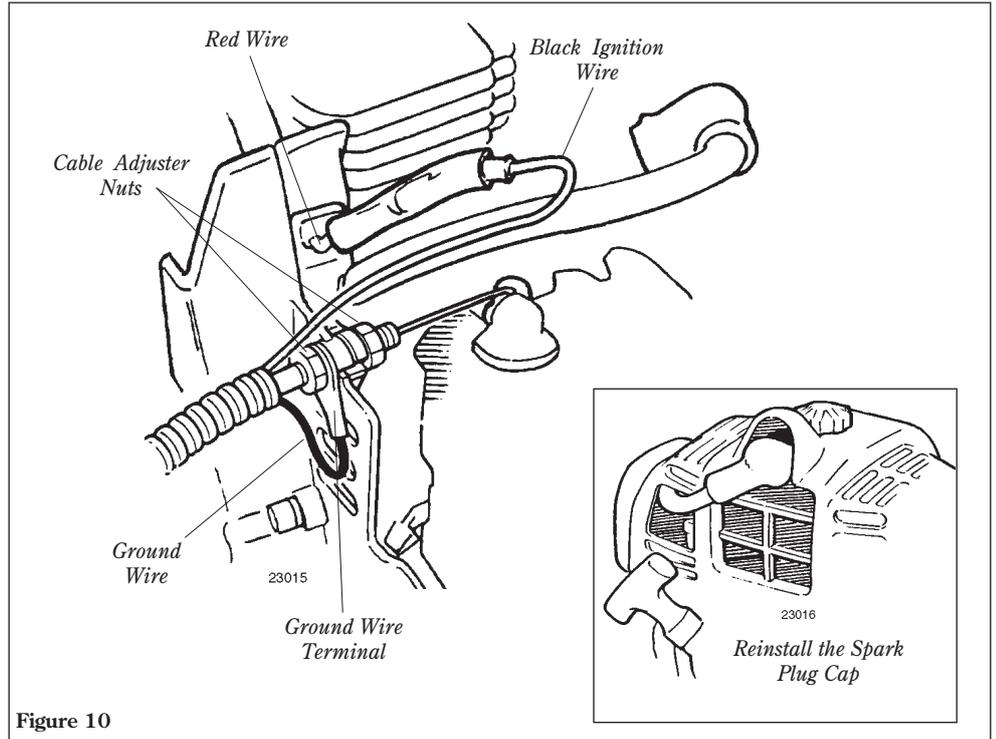

Figure 10
1. Insert the throttle-cable housing into the notch on the fan cover, and clamp the ground wire terminal between the fan cover and the outer cable adjuster nut. See Figure 10.